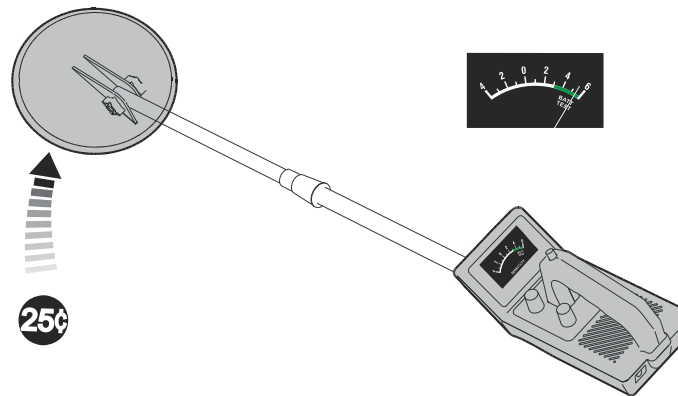

Figure.11
- Let a coin approach the search coil slowly,the meter pointer will deflect to the right,and the sound will turn loud. (Figure.11)